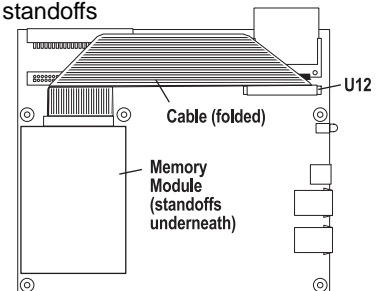

Figure H-2
4. Connect the Memory Module's hard drive cable (**Fig. H-2**) to the appropriate connector (**U12**) on the ASC.
**Note:** To prevent the cable from interfering with insertion of the main board, fold the cable in toward the Memory Module as shown in **Fig. H-2**.